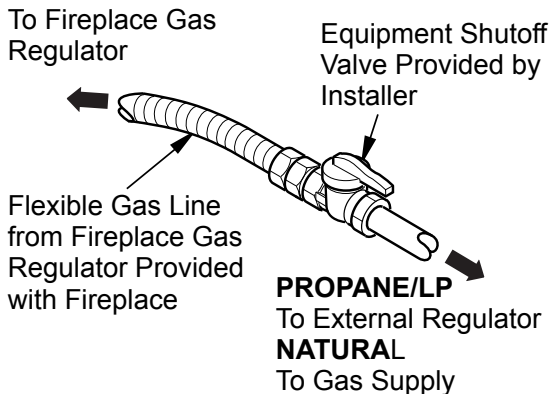

Figure 24 - Attaching Flexible Gas Line to Equipment Shutoff Valve
4. Apply pipe joint sealant lightly to male threads of gas connector attached to flexible gas line/equipment shutoff valve (see **Figure 24, Page 20**).